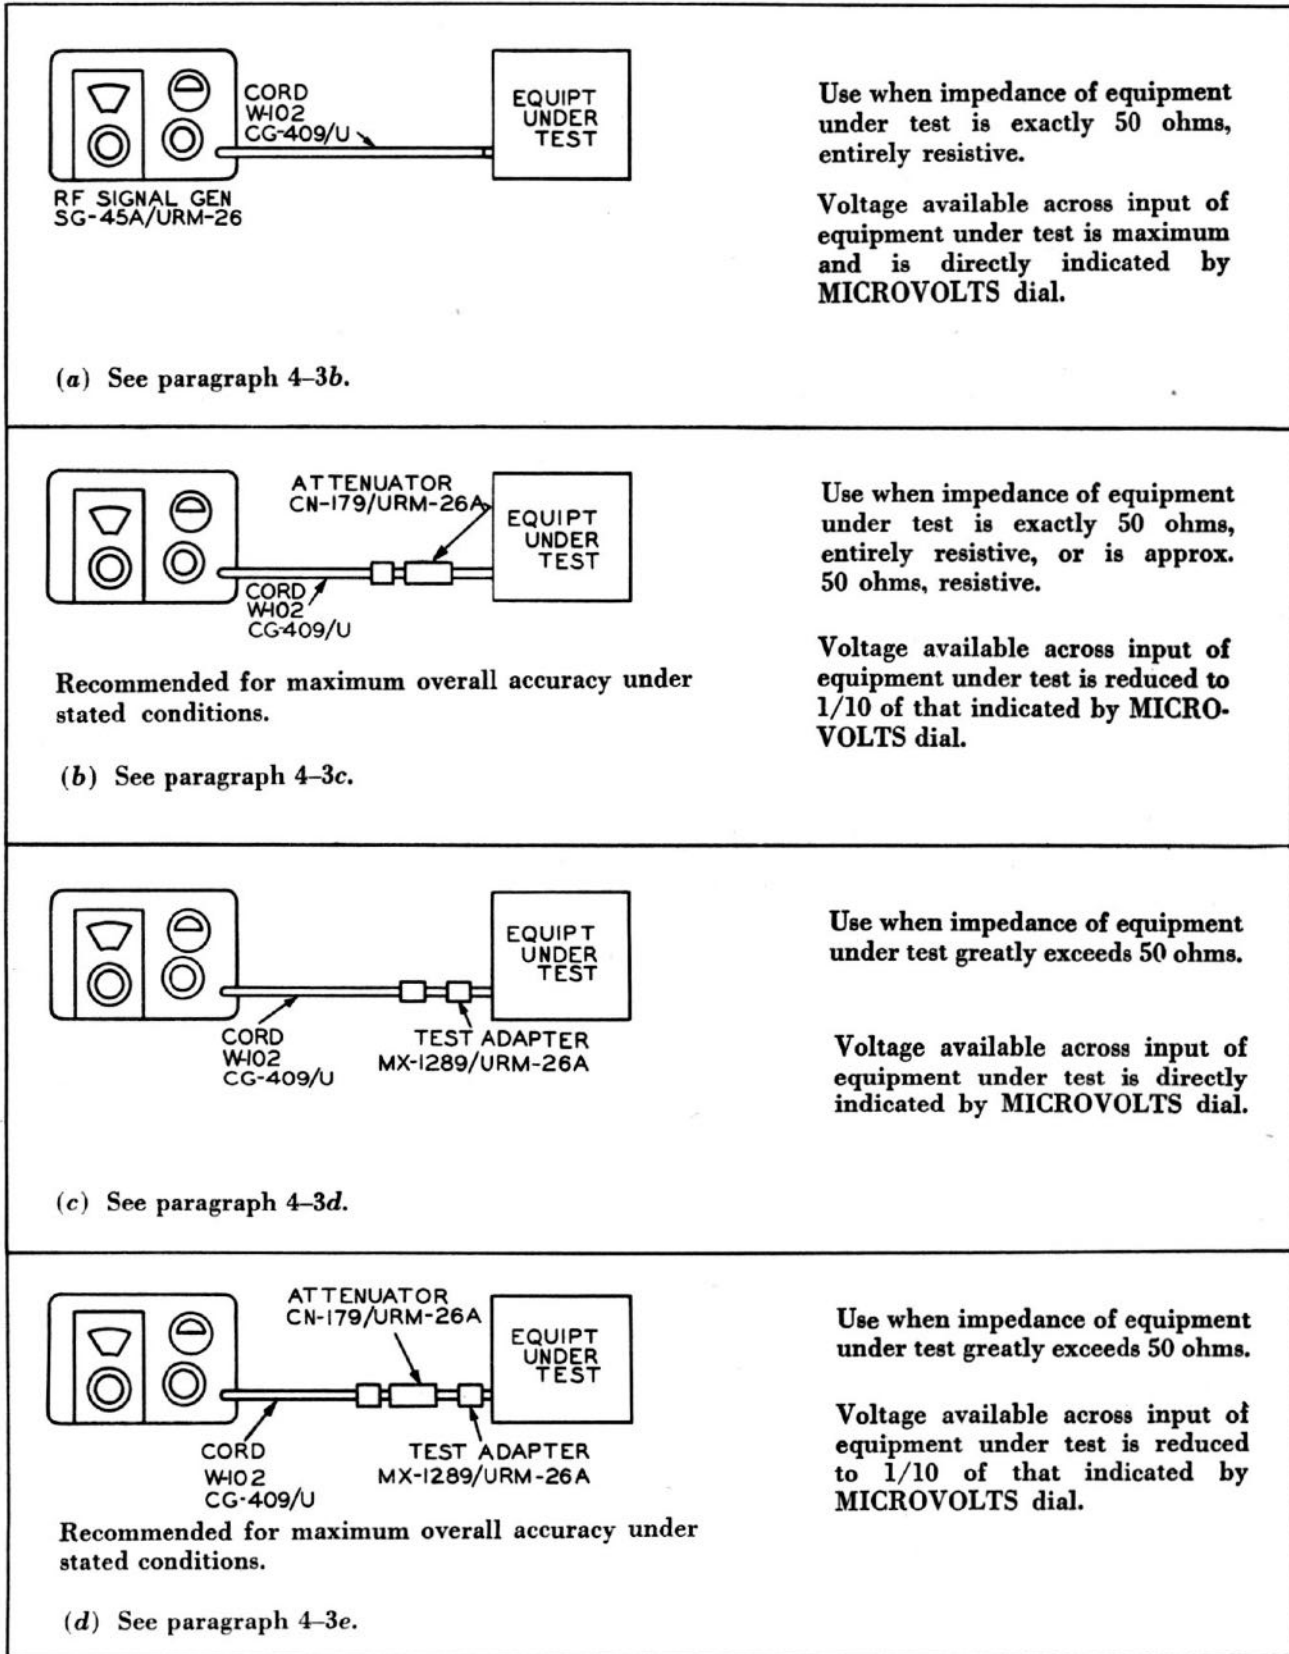

Figure 4-2. RF Signal Generator Set AN/URM-26A, Cording Diagram
a. Connections suitable for different characteristics of equipment under test are shown in figure 4-2.
(6) Tune the signal generator to approximate resonance with receiver and reduce output voltage until signal is barely audible in headphones or readable on test meter. Tune generator to slightly lower and higher frequencies to arrive at resonant point that produces maximum output signal.
(7) Adjust MICROVOLTS dial to produce required reading on receiver output meter. Refer to figure 4-2 for effects of cording on MICROVOLTS dial indication.